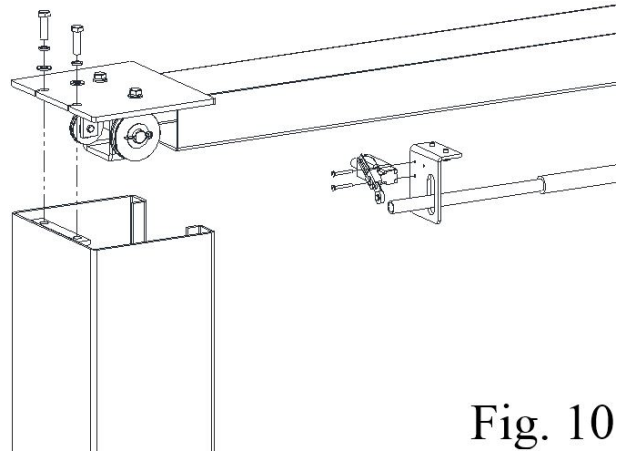

Fig. 10
- Fix the beam to columns using the supplied screws, tighter the screws. Make sure to position the top micro-switch support adjacent the power-side column as shown in the figure 10;